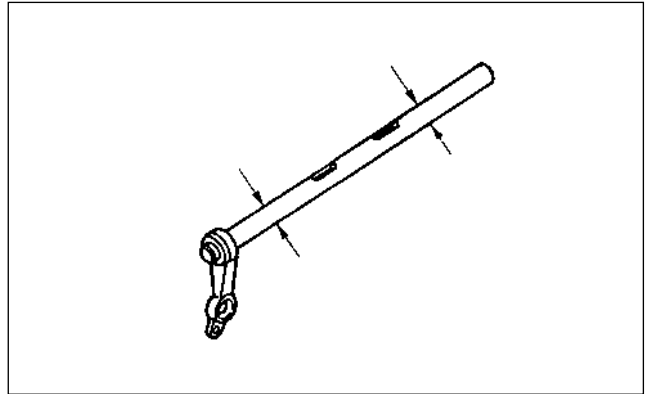

Figure 16. Clutch shaft wear
- Clutch shaft diameters as shown in figure 16. If the diameter is less than 24.5 mm (0.96 in), replace the clutch shaft and needle bearing.